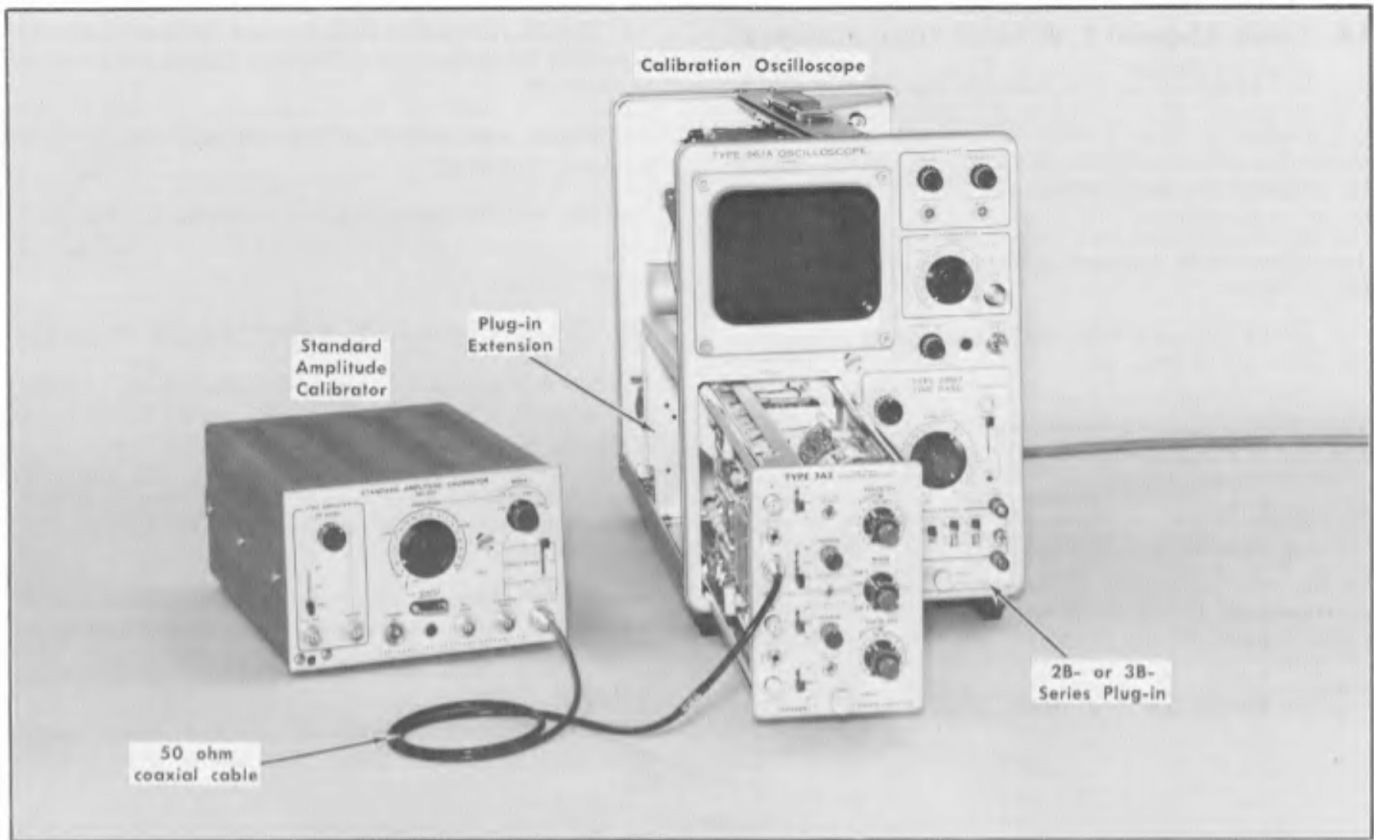

Fig. 6-7. Initial test equipment setup for steps 14 through 15.
- a. Test equipment setup is shown in Fig. 6-7.